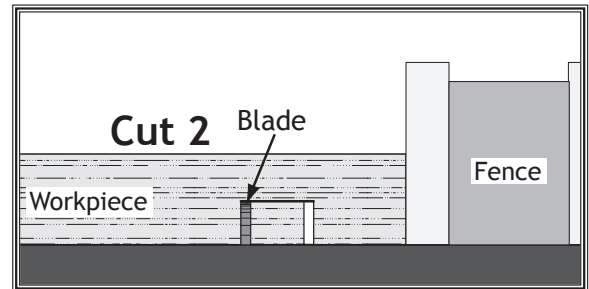

Figure 53. Second cut for a single dado cut.
7. Repeat the cutting operation on the other side of the dado channel, as shown in **Figure 53**.